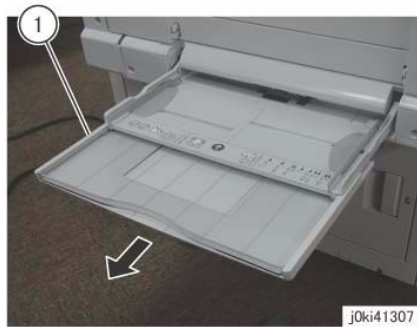

Figure 1 Remove the Extension Tray
3. Gently extend the Extension Tray and pull it out. (Figure 1)